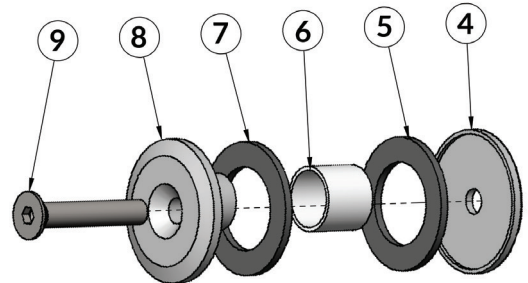

FIG 20.
- Separate parts 4 through 6 (bush) from parts 7 through 9 (hub) (FIG 20).
- Use the allen key to engage and screw in the bolt (9, FIG 20).
- Make sure the nylon washers are flat against the glass so no metal contacts the glass (5 & 7, FIG 20).